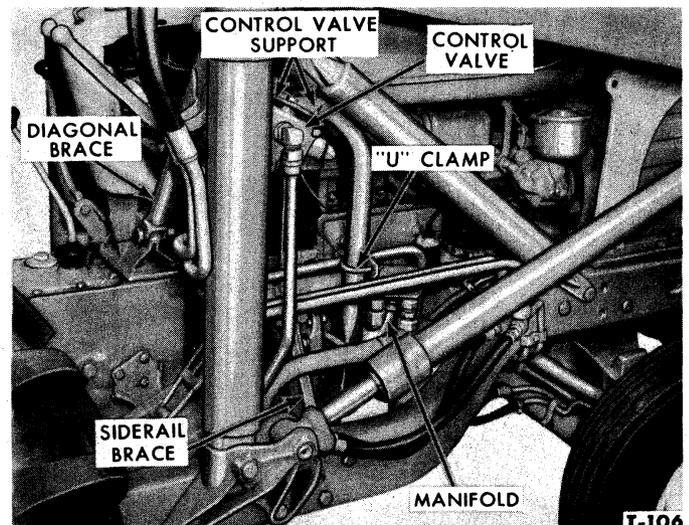

Figure 7—Loader Control Valve and Hydraulic Lines
- a. Remove the three bolts and lock washers that attach the control valve to the control valve support, see Figure 7. Remove the two bolts and lock washers that attach the control valve support to the cylinder block. Remove the "U" clamp that attaches the support to the filter tube mounting bracket and remove the support.